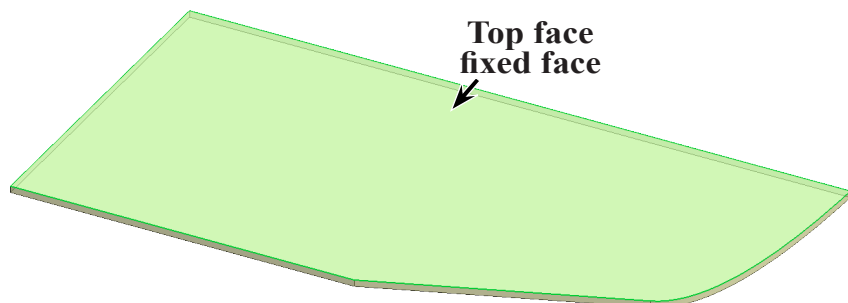

Fig. 11
- click the **top face of Wing**, **Fig. 11**